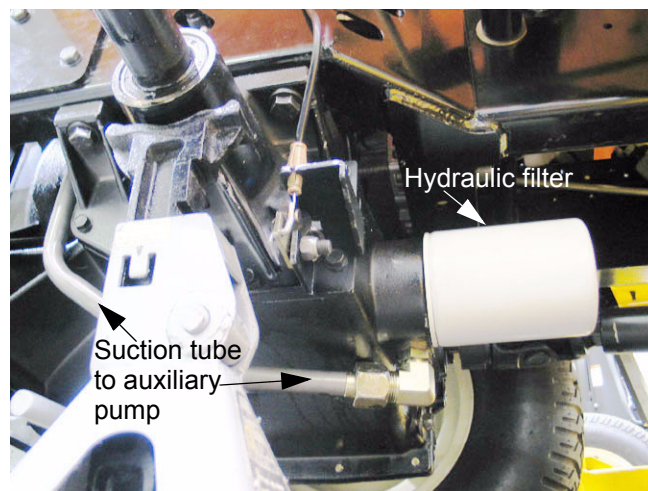

Figure 3.10
- 3.10. Visually inspect the hydraulic system filter and the suction tube that feeds fluid to the auxiliary pump from the sump of the transmission. If it is kinked or crushed, replace it. See Figure 3.10.